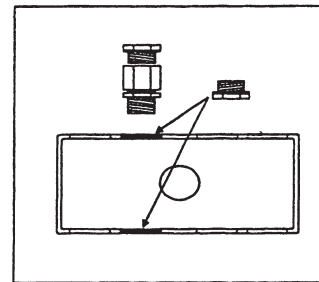

Fig. 1: Cable Gland Positions
- 3 Make cable entry holes in the plastic or metal box by removing suitable knockouts (Refer to Fig. 1).